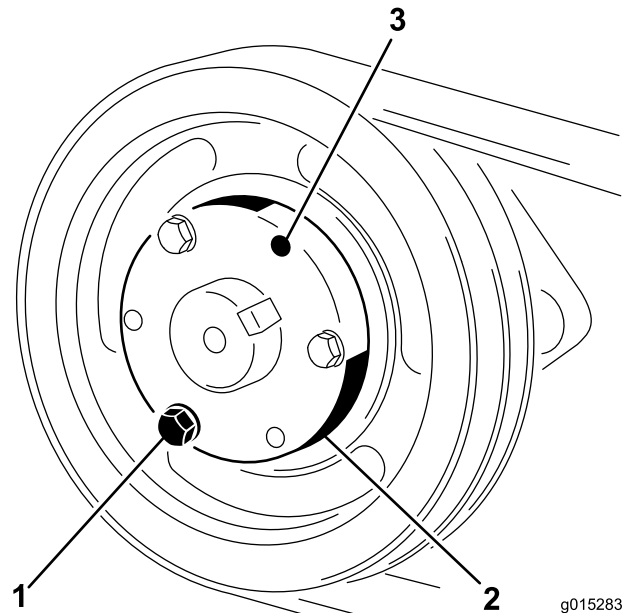

Figure 30
1. Remove the bolts and lockwashers one at a time and screw them into the adjoining holes (Figure 30).